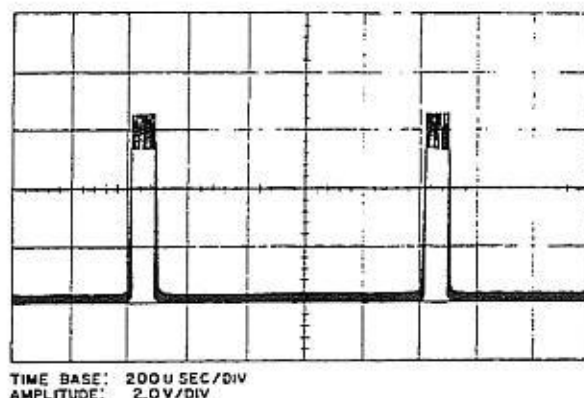

Figure 6.21 — Q19, Emitter Waveform
o. Remain in CW mode and reconnect oscilloscope to emitter of keyed oscillator Q19 (or left end of R57). The observed 1 kHz waveform should resemble the one shown in figure 6.21.